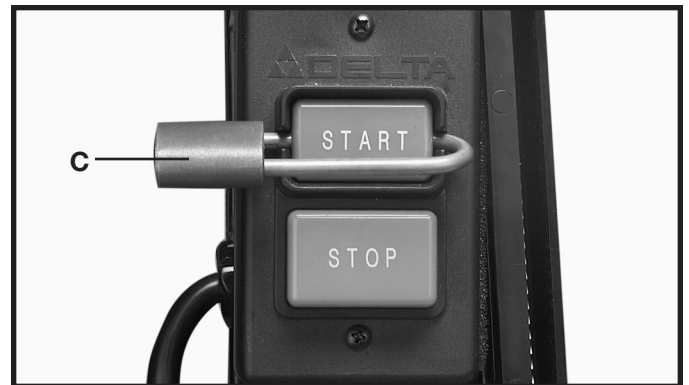

Fig. 42
**IMPORTANT:** When the tool is not in use, the switch should be locked in the “OFF” position to prevent unauthorized use, using a padlock (C) Fig. 42 with a 3/16" diameter shackle.